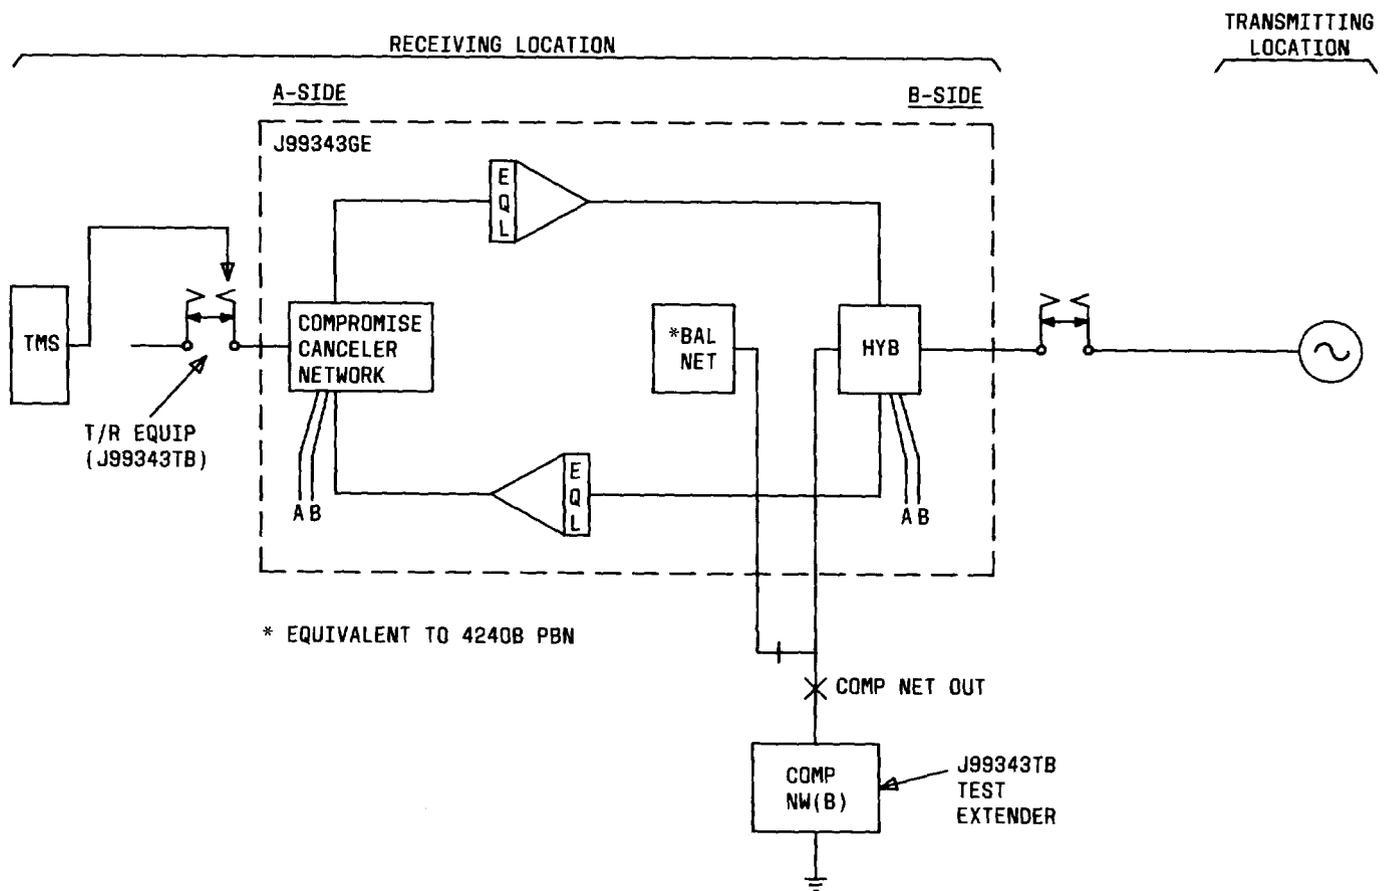

Fig. 4—Test Configuration for Frequency Response Measurements of the J99343GE Combined Function Unit
6.03 The test setup configuration for the procedures in Chart 3 is shown in Fig. 4.